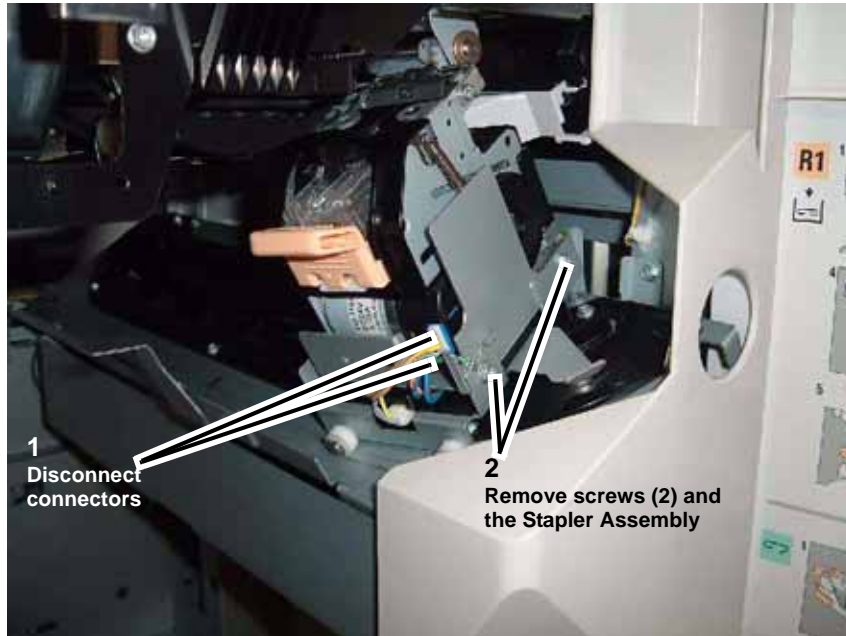

Figure 2 Removing the Stapler Assembly
3. Remove the Stapler Assembly (Figure 2).